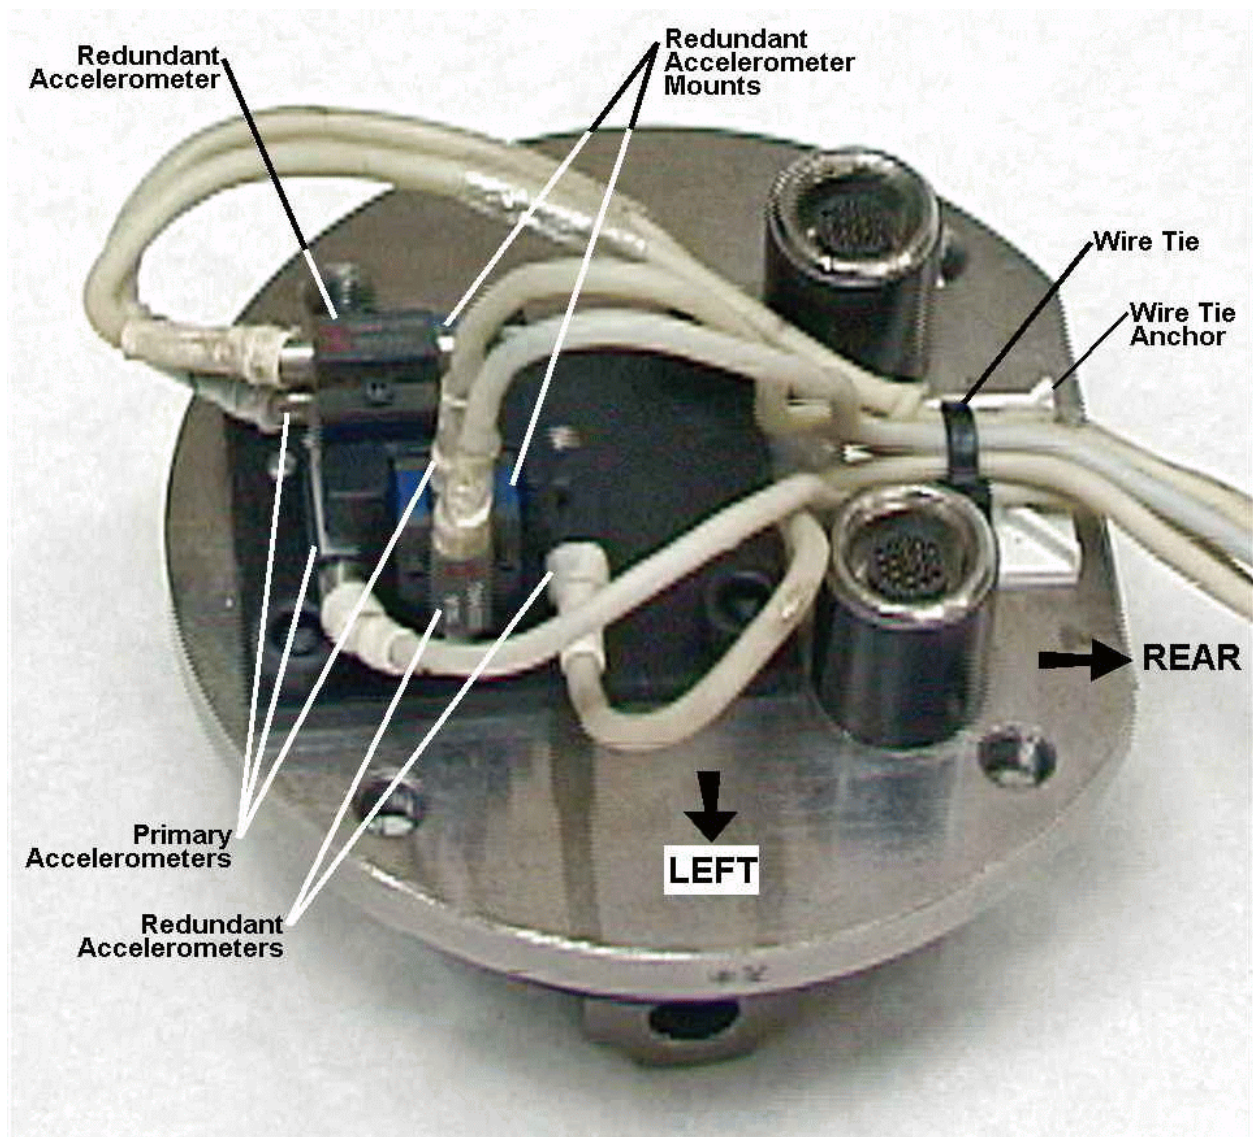

Figure 3.8 -- Perspective view of accelerometers on c.g. assembly and load cell
- d. Attach the wires to a wire tie anchor on the load cell SA572-S11 (Figure 3.8).